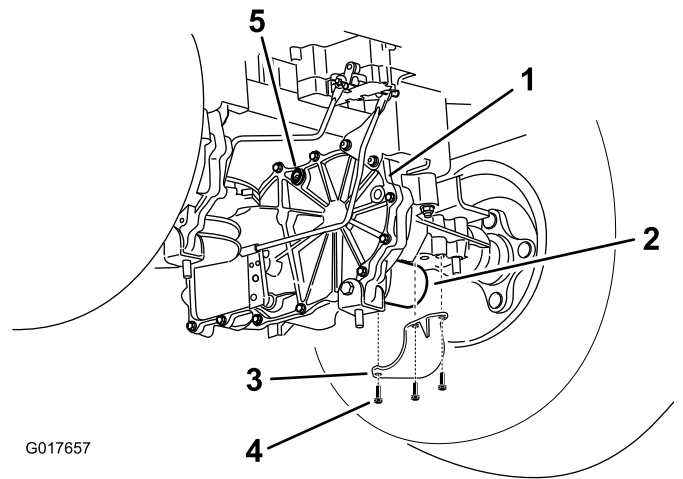

Figure 45
4. Locate the filter and filter guards on each transaxle drive system (Figure 45). Remove three screws securing the filter guard and guard.